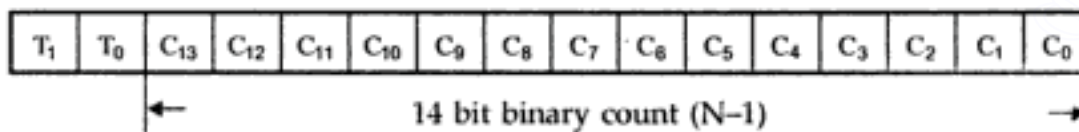

Fig. 6.6
**Terminal Count Register :** Fig. 6.6 shows the format of terminal count register.